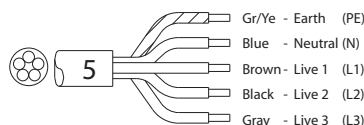

Fig. 9
- (fig. 9) 3 N~ 400V (5 core cable)